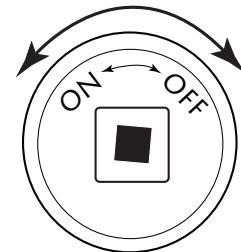

Fig. 8. Key Valve Face
1. Insert key into shut-off valve and secure into square end (see Figs 8 & 9).